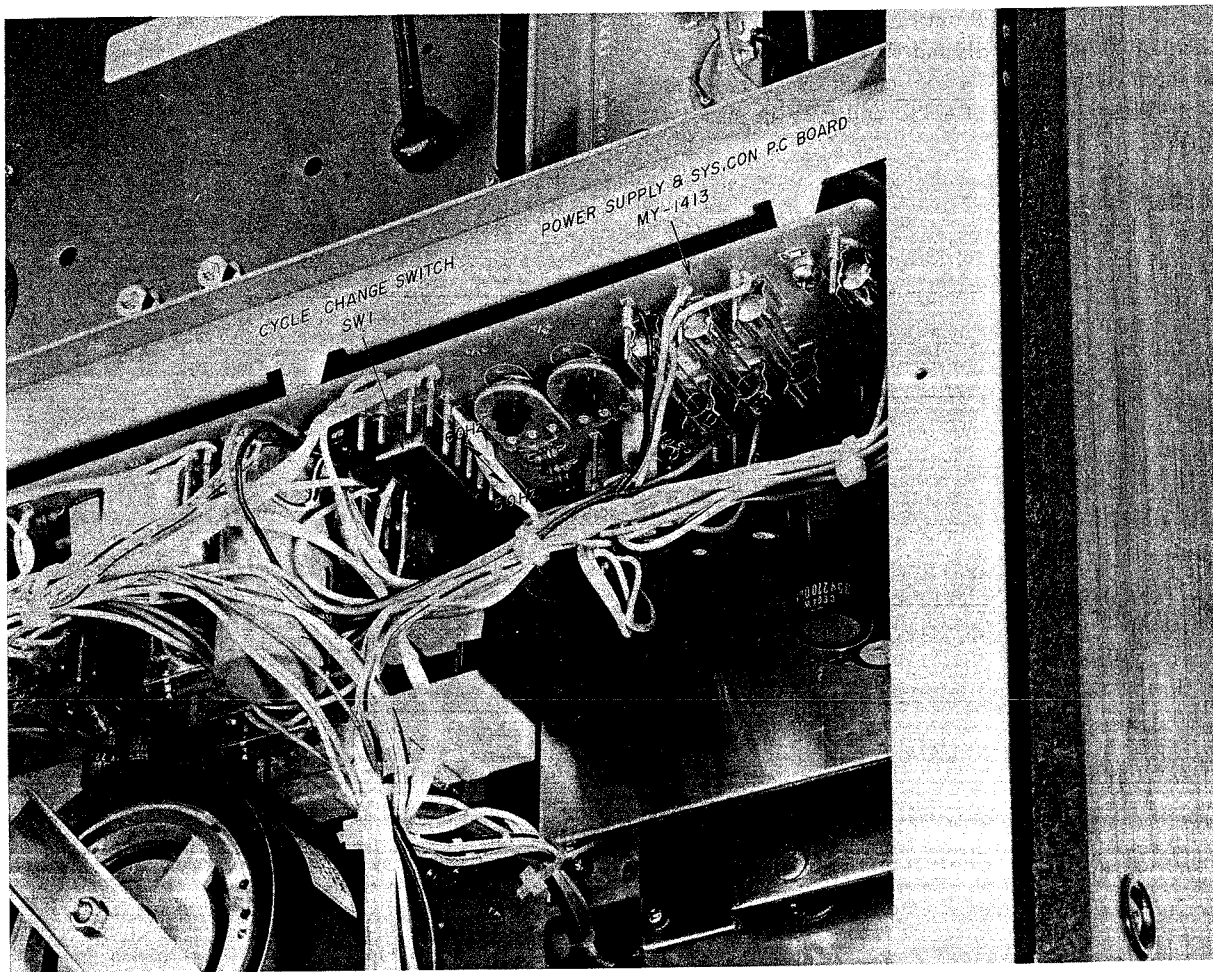

Fig. 5 Cycle Conversion (U/T, JPN Model Only)
2. CYCLE CONVERSION (Refer to Fig. 5)